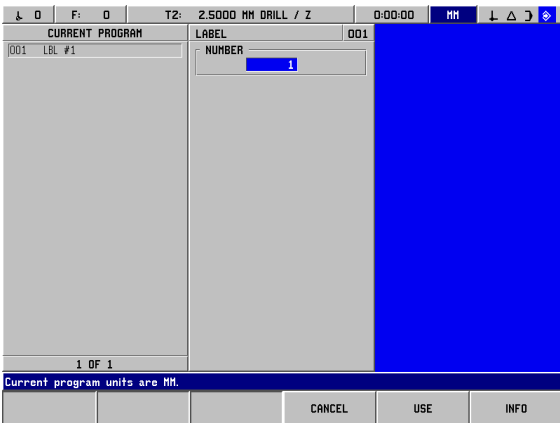

Fig. I.46 LABEL form
**Example: Insert label for subprogram. See Fig. I.46.**